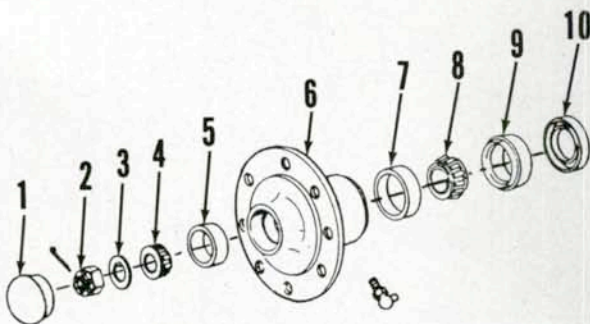

Fig. 2—Exploded view of front wheel hub assembly.
To remove front wheel hub (6—Fig. 2) and bearings, remove hub cap (1) and retaining nut (2). Withdraw hub, bearings, seal (9) and dirt shield (10) if necessary.
Lubricate parts with grease during reassembly. Tighten steering arm retaining nut to 180 ft.-lbs. (244 N·m) torque. Pack wheel hub and bearings with grease and reinstall on spindle. Tighten castellated nut (2—Fig. 2) to 20-30 ft.-lbs. (27-41 N·m) torque and rotate wheel hub five revolutions. Further tighten castellated nut to a torque of 45-55 ft.-lbs. (61-75 N·m), then loosen nut 1/2 turn (two flats of nut). Install cotter pin, tightening nut to nearest castellation if necessary, to allow installation of pin.